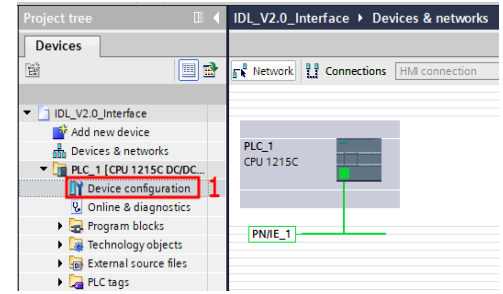

Figure 6: Device Configuration -> Network View
10. Go to “Device configuration” then “Network view,” Figure 6.